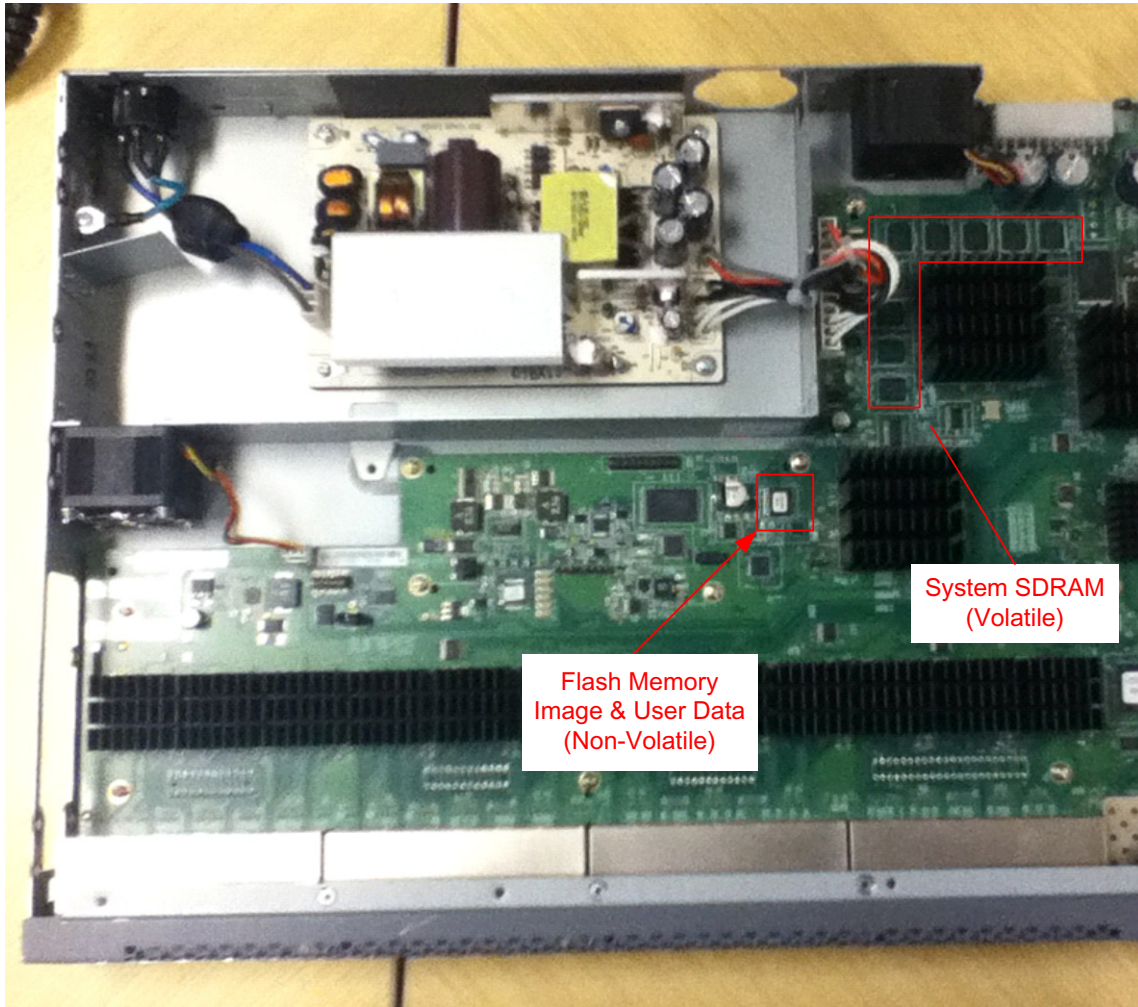

Figure 3-6: EX3300 Locate NV Storage (Flash)
| Figure 3-6: EX3300 Locate NV Storage (Flash) | 6 |
6. Locate NV storage (Figure 3-6)